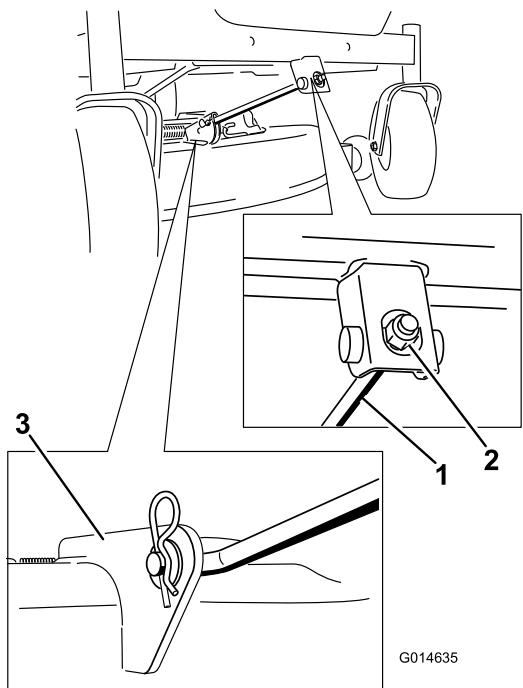

Figure 59
4. Remove the hairpin cotter from the front support rod, and remove the rod from the deck bracket (Figure 59).
6. Attach the front support rod to the mower deck with the clevis pin and hairpin cotter (Figure 59).